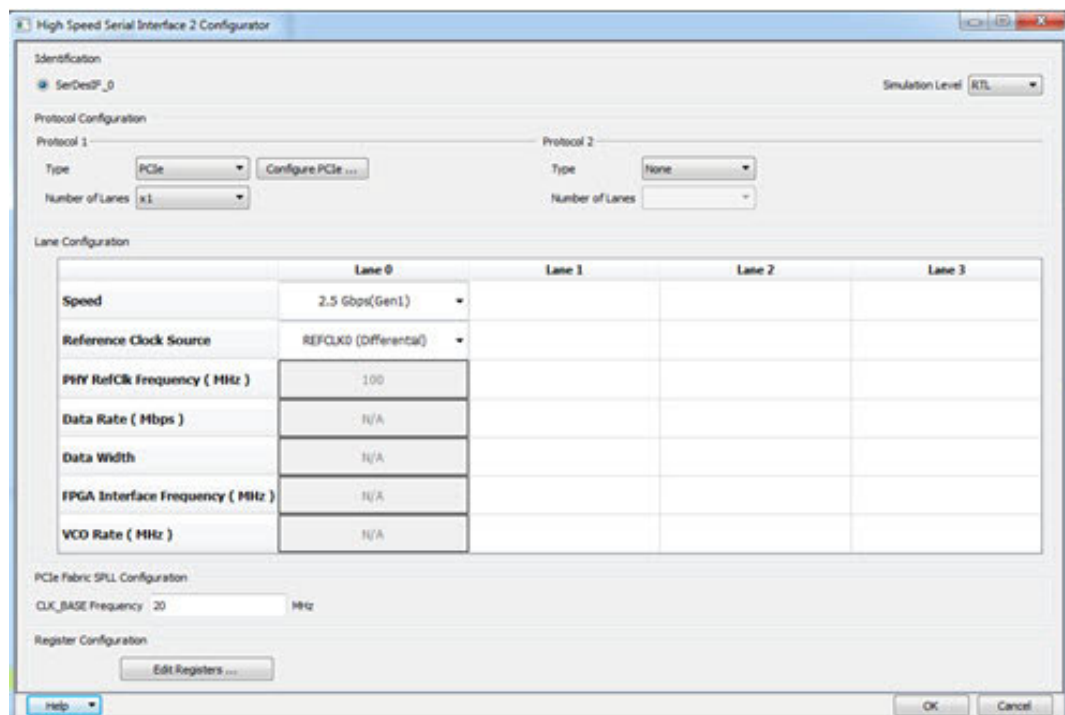

Figure 3 • High Speed Serial Interface 2 Configurator
The High Speed Serial Interface block in the IGLOO2 M2GL090T/TS and SmartFusion2 M2S090T/TS devices (Figure 3) provides multiple high speed serial protocols, such as PCIe end-point and XAUI. In addition, it enables the FPGA fabric to connect with the External Physical Coding Sublayer (EPCS) interface and implement any user defined protocol in the fabric.
2. Double-click the SERDES block on the Canvas to open the Configurator (Figure 3 and Figure 4).